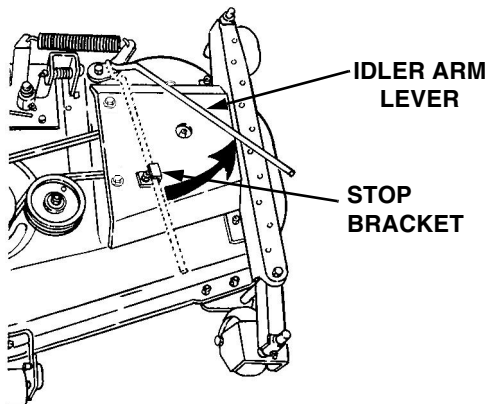

Figure 6-10
3. Lower the mower deck by moving the implement lift handle to its lowest setting. Disengage the deck idler arm lever from its stop bracket and release the spring tension by rotating the lever out and rearward (See Figure 6-10).